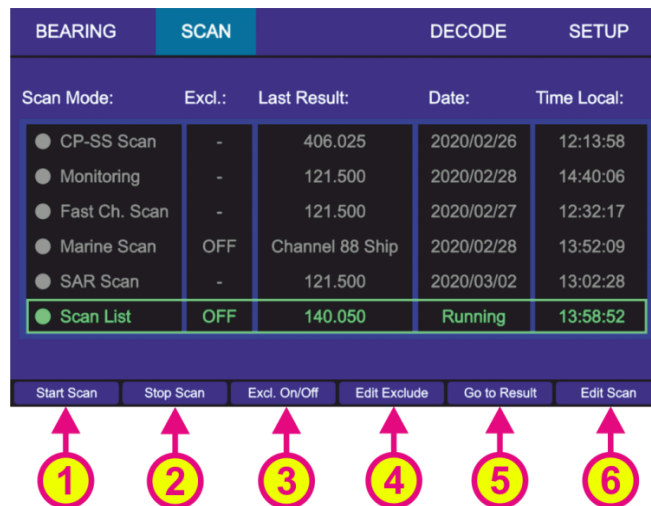
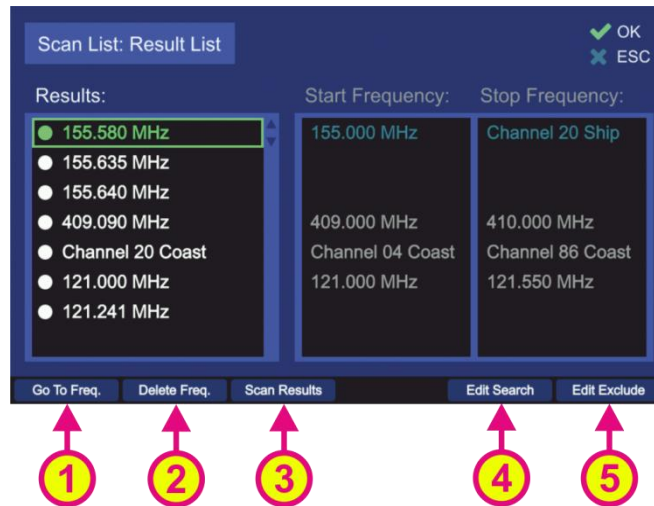

Fig. 54 "Scan List" is activated
Fig. 55 Result List Settings
- To start the “Scan List” mode select the corresponding line on the “Scan” page and press “OK” or the hotkey “Start Scan” (s. Fig. 54, position 1).
- Pressing the hotkey “Stop Scan” (s. Fig. 54, position 2) will terminate the scan mode and change to the bearing of the frequency, that was set before the scan mode has been activated.
- The hotkey “Excl. On/Off” is only visible if “Marine scan” or “Scan List” is marked (s. Fig. 54, position 3).
- “Edit Exclude” is only visible, if “Marine scan” or “Scan List” is marked (s. Fig. 54, position 4). By pressing this hotkey, the dialog for editing the “Exclude List” will be opened (s. 6.2.4.3).
- Pressing the hotkey “Go to Result” (s. Fig. 54, position 5) during the scan list mode is currently running, will interrupt the scan mode, and open the “Result List”, where you can select the next action (s. Fig. 55). This hotkey appears only if there is a result for this scan.
- Pressing the hotkey “Go to Freq.” (s. Fig. 55, position 1) adopts the currently marked frequency as main bearing frequency and switches to the normal bearing mode on the “Bearing” page.
- Pressing the hotkey “Delete Freq.” (s. Fig. 55, position 2) deletes the currently marked frequency from “Result List”. The deleted frequency will not be skipped anymore, when the results are scanned after pressing “Scan Results”.
- Pressing “Scan Results” (s. Fig. 55, position 3) starts the scan list mode, which runs only around the frequencies which had a result during the last scan (frequency span around 100 kHz).
- Pressing “Edit Search” (s. Fig. 55, position 4) will open the “Search List” dialog (s. “Edit Scan” below).
- Pressing “Edit Exclude” (s. Fig. 55, position 5) will open the “Exclude List” dialog (s. 6.2.4.3).
- Pressing the hotkey “Edit Scan” (s. Fig. 54, position 6) will open the dialog for changing the settings of the “Search List” (s. Fig. 56).